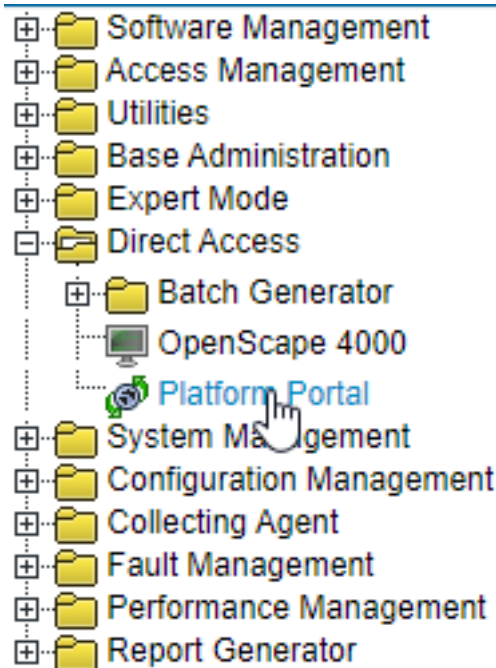

Figure 88: Accessing Webmin Base Administration
- 4) If the OpenScape 4000 Assistant Launchpad of the selected OpenScape/HiPath 4000 comes up (see Figure 88), the Assistant is up and Single Sign On feature works.